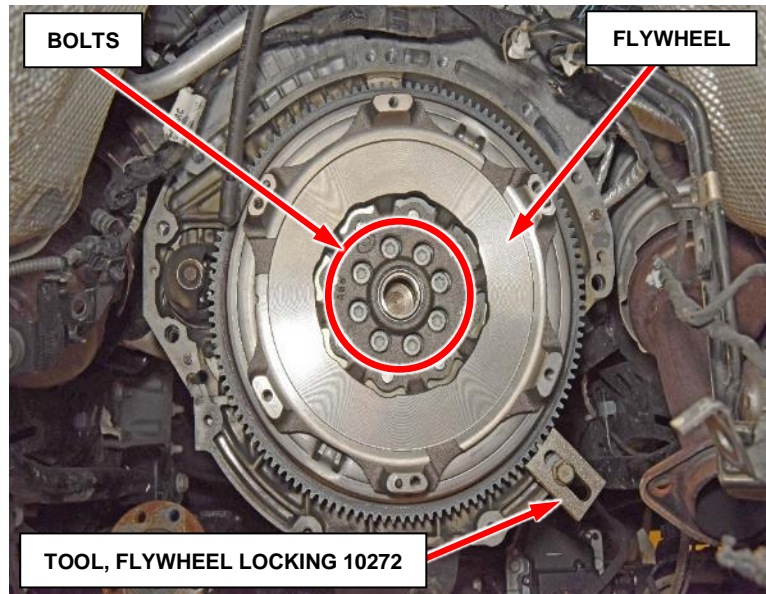

Figure 15 - Flywheel
48. Install the **NEW** flywheel and **NEW** bolts tighten flywheel bolts evenly and in rotation a few threads at a time. The bolts must be tightened evenly to 52N·m (38ft. lbs.) (Figure 15).